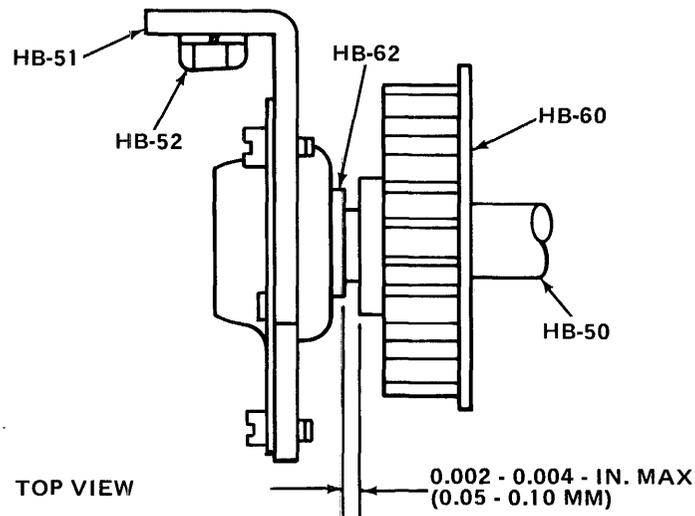

Figure 5-5. BUSHING END-PLAY ADJUSTMENT FOR PRELOAD CLUTCH SHAFT (HB-50)
- G. Bushing End-Play Adjustment (Pre-Load Clutch) (Refer Fig. 5-5)